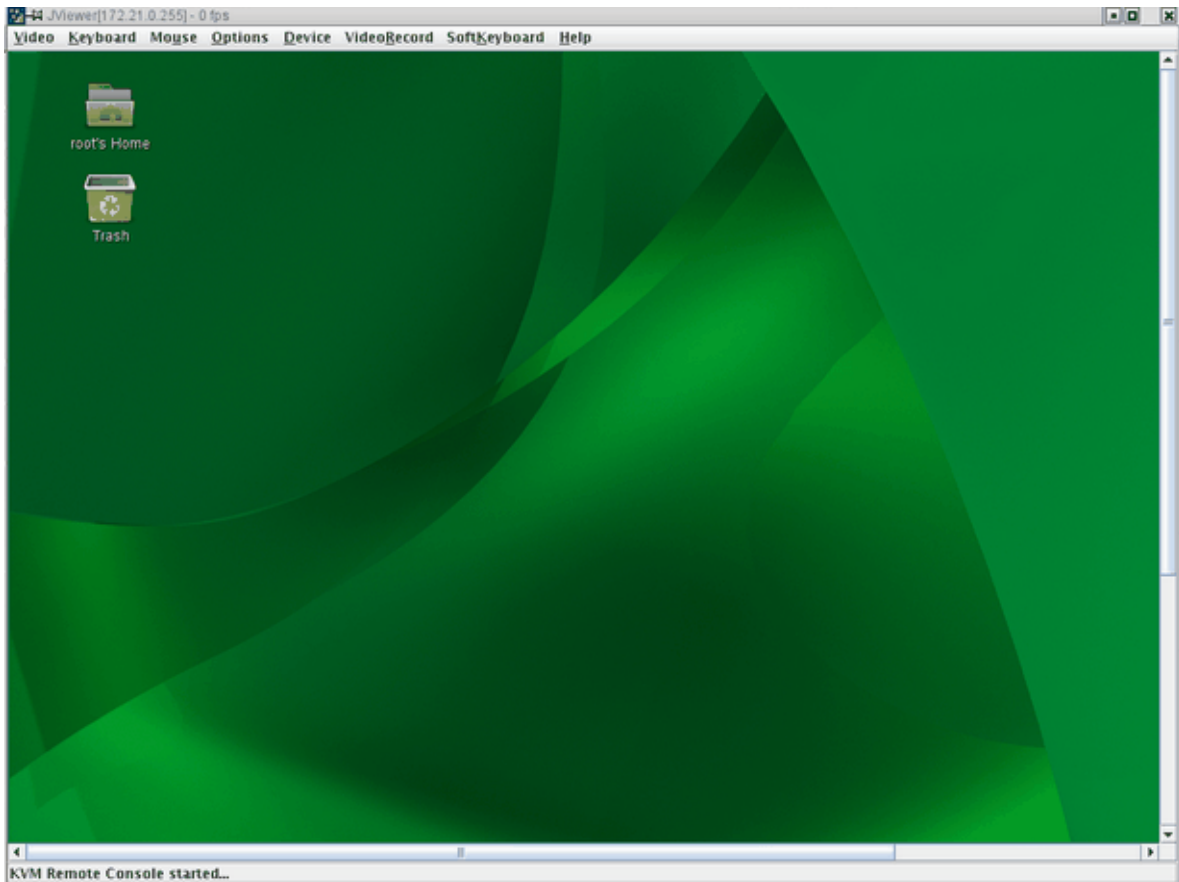

Figure 3-12 SUSE Linux Enterprise Server 11 (x86_64) Desktop Screen
15. The SUSE Linux Enterprise Server 11 (x86_64) desktop appears, as shown in Figure 3-12 on page 49.